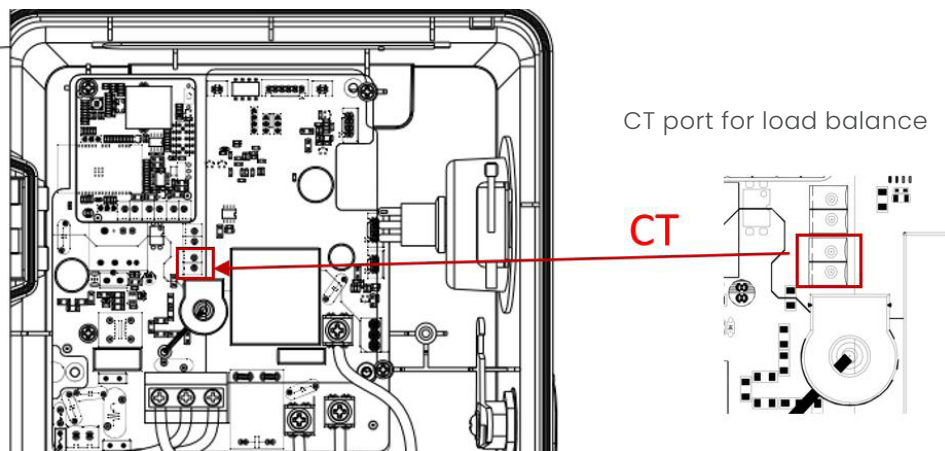

Figure 1
- Connect the CT connector to the CT port as shown in Fig 1.